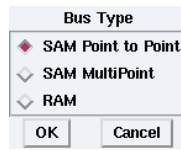

Figure 1.17: Type of a communication medium
- click **Modify type** → dialog window: **SAM Point to Point** (cf. figure 1.17),